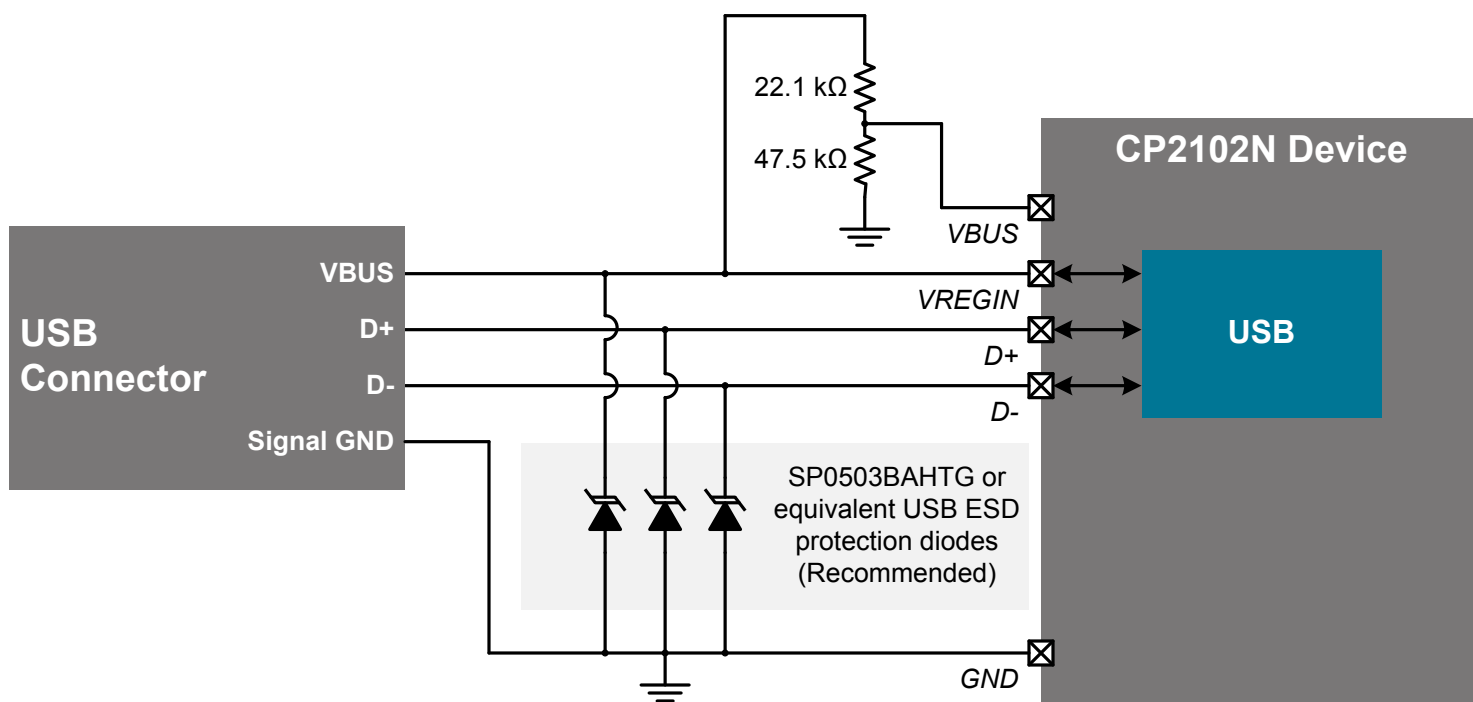
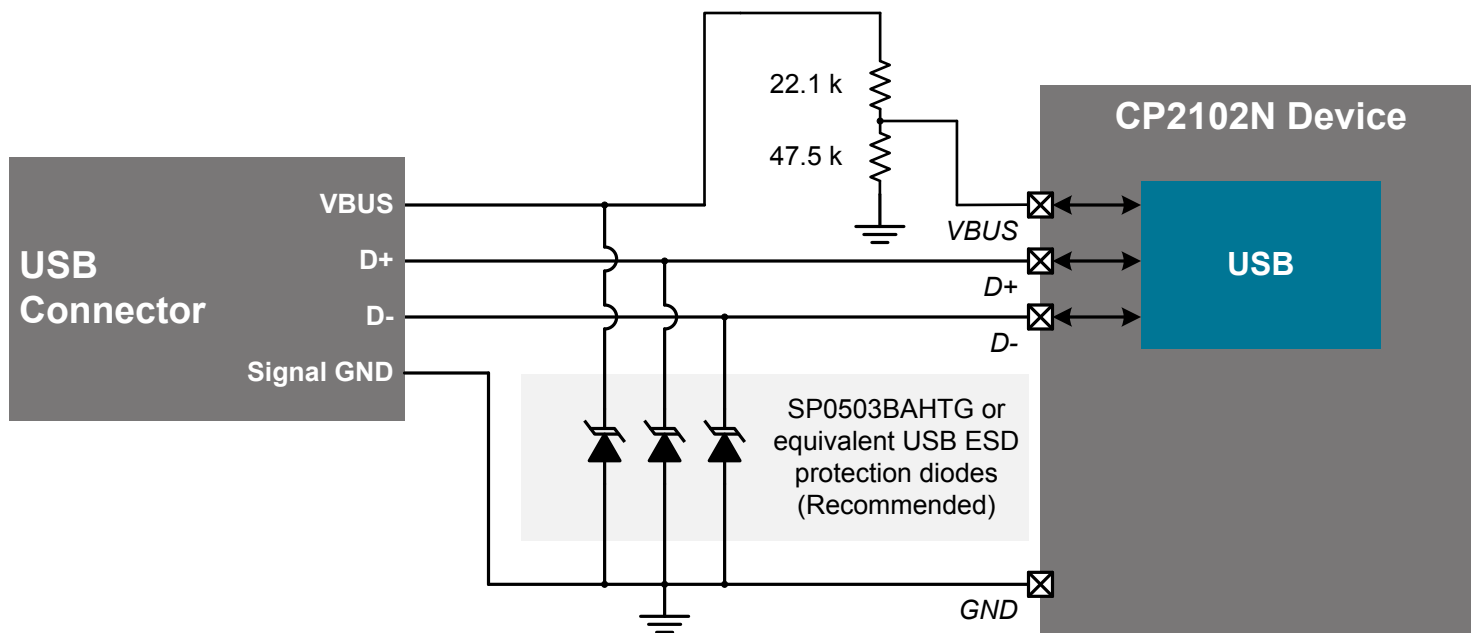

Figure 1.1. Bus-Powered Connection Diagram for USB Pins
Figure 1.2. Self-Powered Connection Diagram for USB Pins
A resistor divider (or functionally-equivalent circuit) on VBUS, as shown in Figure 1.1 Bus-Powered Connection Diagram for USB Pins on page 3 and Figure 1.2 Self-Powered Connection Diagram for USB Pins on page 4 for bus- and self-powered operation, respectively, is required to meet these specifications and ensure reliable device operation. In this case, the current limitation of the resistor divider prevents high VBUS pin leakage current, even though the $V_{IO} + 2.5\text{ V}$ specification is not strictly met while the device is not powered.
The CP2102N-A02-GQFN28 is pin compatible with the CP2101 with the addition of the voltage divider circuit shown in Figure 1.1 Bus-Powered Connection Diagram for USB Pins on page 3 and Figure 1.2 Self-Powered Connection Diagram for USB Pins on page 4.
The CP2102N-A02-GQFN28 is pin compatible with the CP2102/9 with the addition of the voltage divider circuit shown in Figure 1.1 Bus-Powered Connection Diagram for USB Pins on page 3 and Figure 1.2 Self-Powered Connection Diagram for USB Pins on page 4.
The CP2102N-A02-GQFN24 is pin compatible with the CP2104 with the addition of the voltage divider circuit shown in Figure 1.1 Bus-Powered Connection Diagram for USB Pins on page 3 and Figure 1.2 Self-Powered Connection Diagram for USB Pins on page 4. No other hardware changes are required when transitioning a CP2104 design to the CP2102N. The CP2104 does require a capacitor between VPP (pin 16) and ground for in-system programming, but this pin is not connected on the CP2102N. Whether or not this capacitor is attached to this pin will have no effect on the CP2102N.
- Updated Figure 1.1 Bus-Powered Connection Diagram for USB Pin on page 3 and Figure 1.2 Self-Powered Connection Diagram for USB Pin on page 4 to reflect new SP0503BAHTG protection device RoHS-compliant part number.